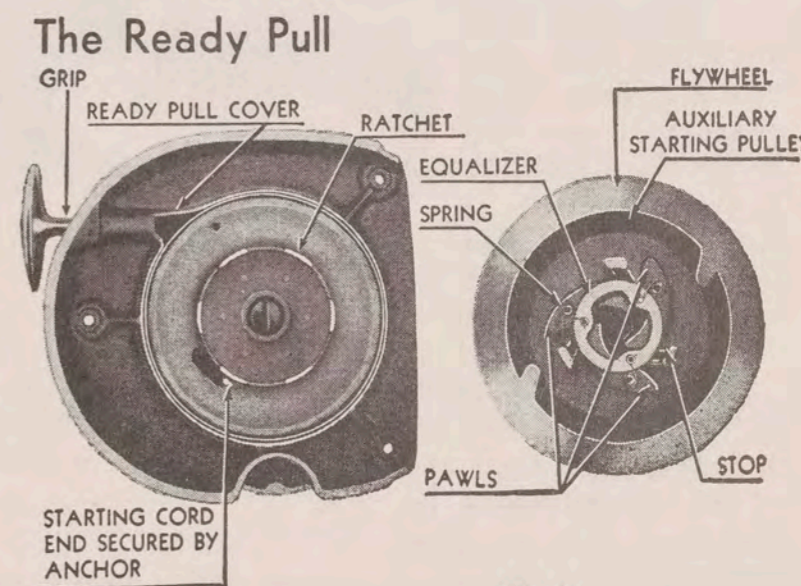

Fig. 20
This simple device is built into model KD(L) for the express purpose of eliminating the necessity of manually wrapping the cord around the starting pulley for cranking. Fig. 20. It consists of a ratchet plate about which are coiled a return spring and the starting cord and a pawl arrangement mounted on top of the magneto flywheel.